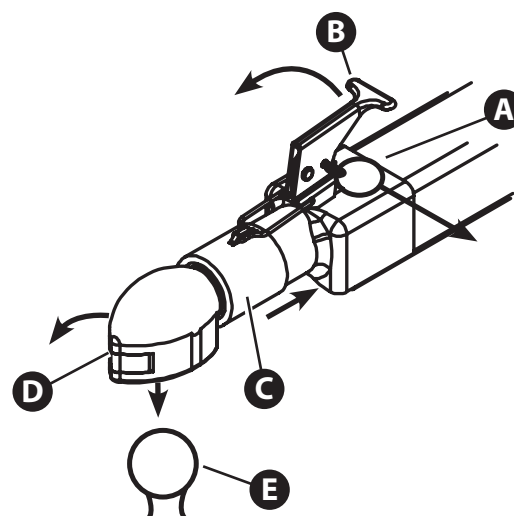

Figure 3.4
1. Make sure the coupler is open: Remove the pin (A, Figure 3.4) from the latch (B) and lift the latch. Make sure the coupler cap (D) is open and holds the collar (C) back.
2. Lower the trailer onto the hitch ball (E, Figure 3.4).